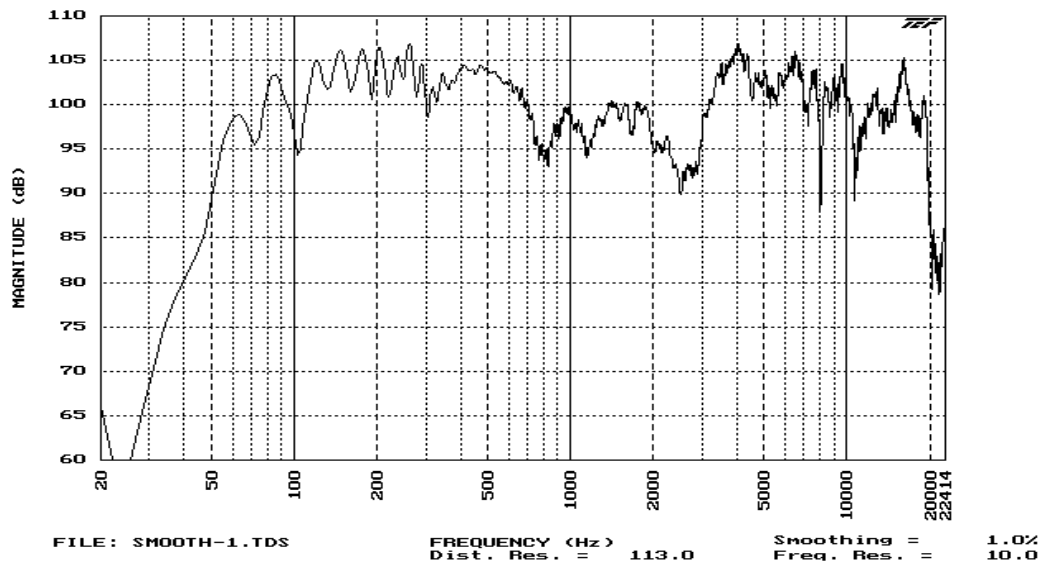

Figure 2. 1% Smoothing
**Figure 2** shows how 1% smoothing equalizes point distribution and makes the high frequency information easier to read while the mid and low frequencies are virtually unaffected.